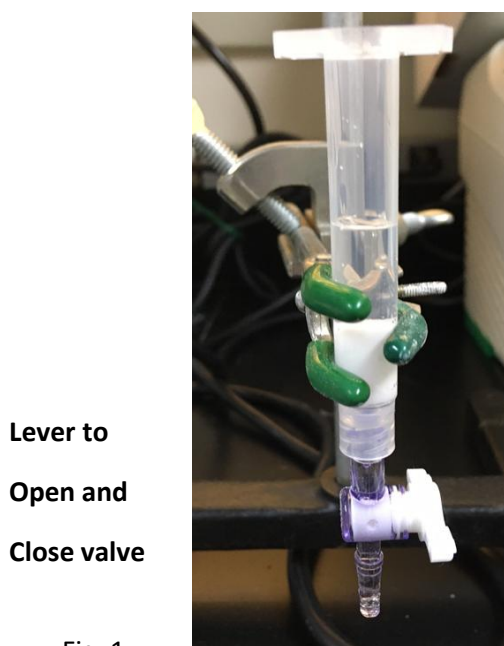

Fig. 1
1. Set the liquid waste container under the stopcock. Remove the stopper on the column tip. Remove the lid on the top of the column. See Fig. 1.
10. Add all 400uL of this mixture to the chromatography column. Carefully dispense the solution down the side of the column to avoid disturbing the surface of the resin bed. See Fig. 1 at the end of the protocol to view a photo of a column with all parts labeled.